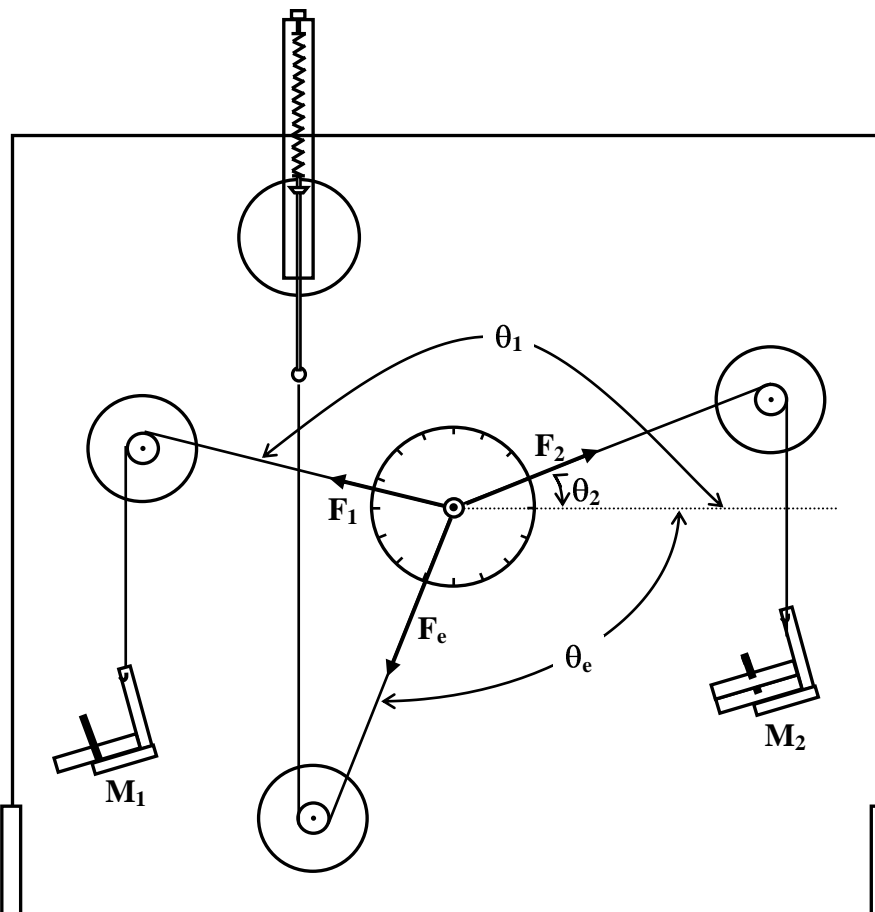

Figure 2.4: Equipment Setup
2. Now use pulleys and hanging masses as shown in Fig.2.4 to setup the equipment so that two forces,  $\vec{F}_1$  and  $\vec{F}_2$ , are pulling on the Force Ring. Use the Holding Pin to prevent the ring from being accelerated. The Holding Pin provides a force  $\vec{F}_e$  that is exactly opposite to the resultant of  $\vec{F}_1$  and  $\vec{F}_2$ .